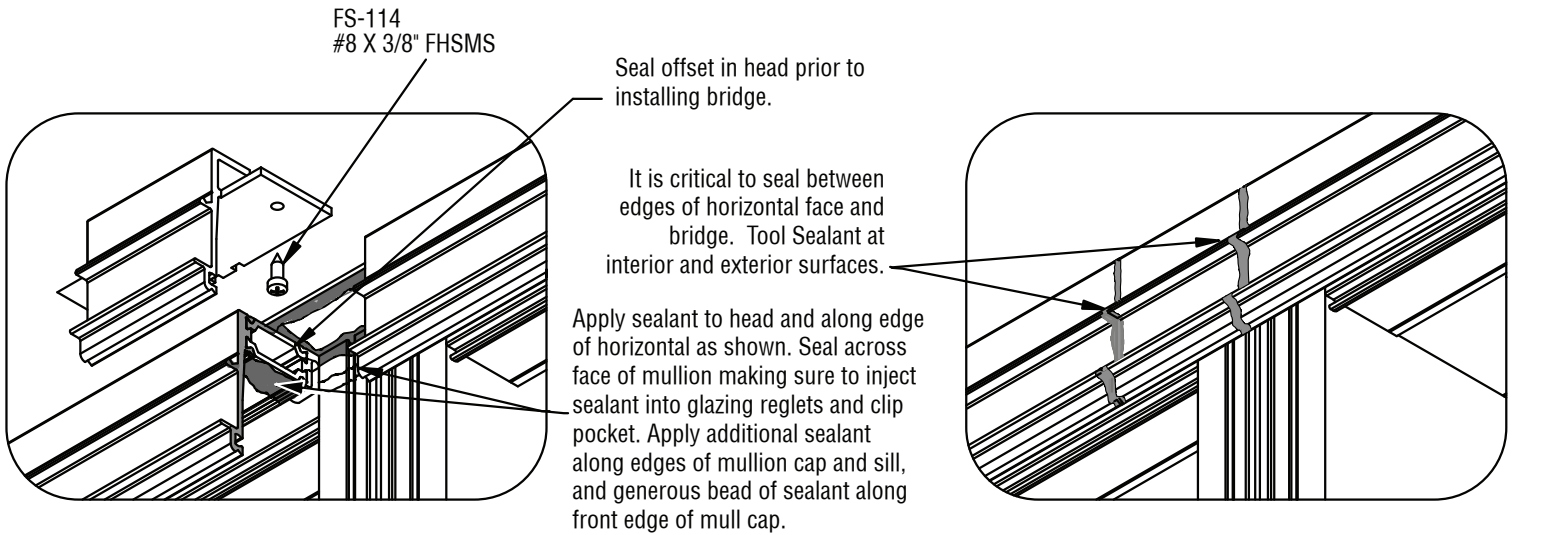

FIGURE 21
- 3.9 Prior to installing glass, horizontal bridges must be installed and sealed (**See FIGURES 21 thru 23, page 25**).